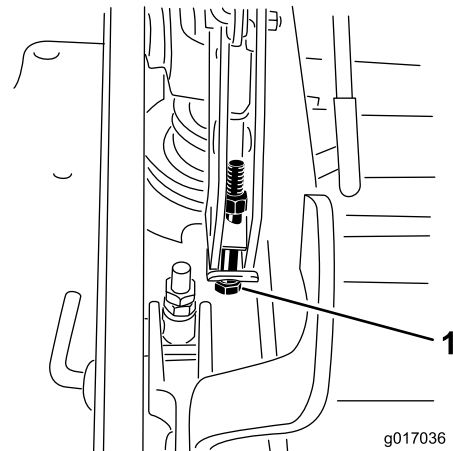

Figure 94
13. If the deck is too low, tighten the single point adjustment bolt by rotating it clockwise. If the deck is too high, loosen the single point adjustment bolt by rotating it counterclockwise (Figure 94).
14. Tighten the 2 bolts at the bottom of the height-of-cut plate (Figure 94).